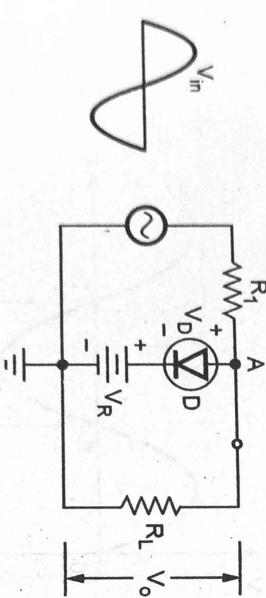

Fig. Q.45.1 Positive clipper with reference voltage
- The Fig. Q.45.1 shows the basic parallel positive clipper circuit with reference voltage.